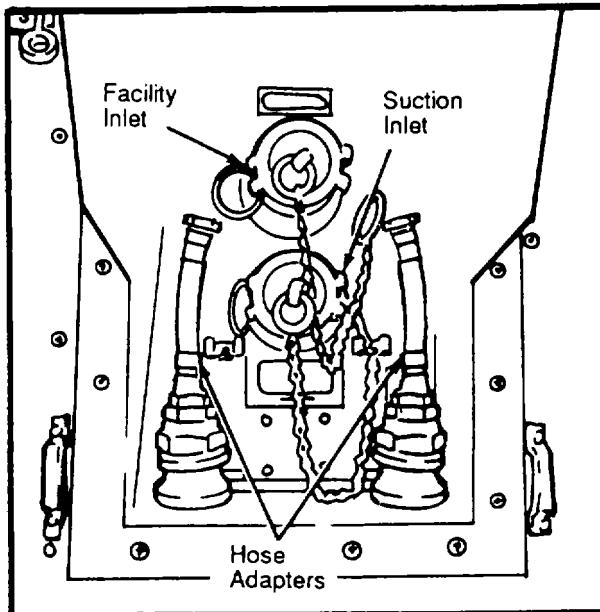

Figure 2-10. Water Inlet Box
- (1) Remove a hose adapter from water inlet box and hook up the 50 foot garden hose to the hose adapter.
- (2) Hook up the hose adapter with garden hose, to the facility inlet on the curbside, exterior of the van (Figure 2-10).
- (1) Perform all steps above for Potable Source, Pressurized System (Paragraph 2-9a).
- (2) Hook up the hose adapter, with garden hose, to the suction inlet (Figure 2-10) on the curbside exterior of the van.